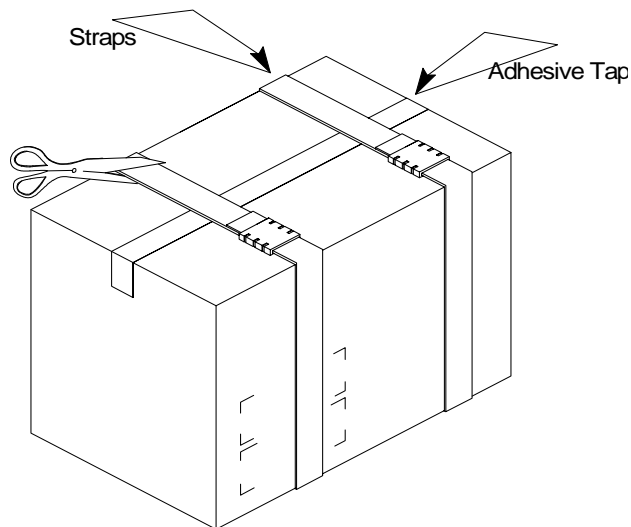

Figure 3-1 Unpacking LOGIQ™ α 100/LOGIQ™ 100 PRO
- 1.) Cut the two straps wrapped around the box. Refer Figure 3-1.
- 2.) Remove the adhesive tape. Refer Figure 3-1